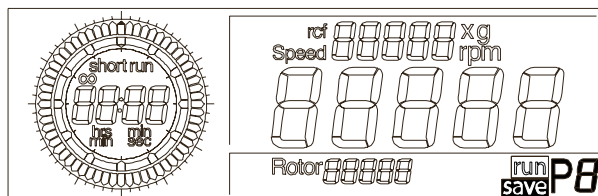

Fig. 5.15: Saving programs;
- Turn the left rotary knob until the “save” cursor appears on the display (Fig. 5.15).